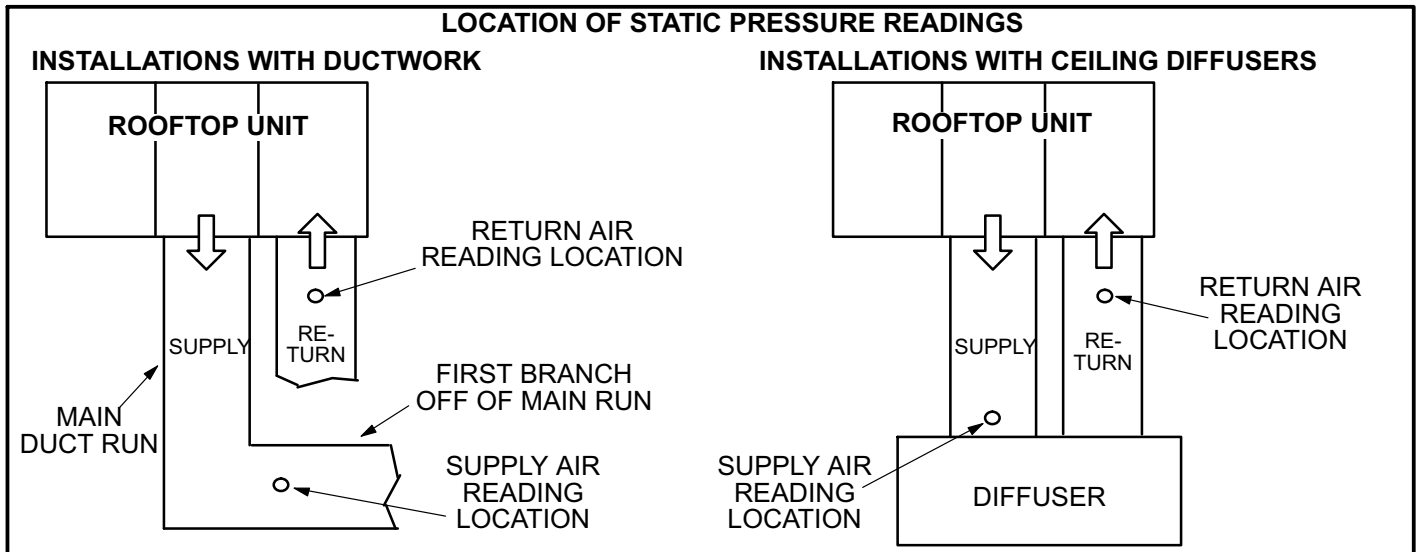

FIGURE 7
- 2- With all access panels in place, measure static pressure external to unit (from supply to return). Add any additional air resistance for options and accessories shown in accessory air resistance tables. Blower performance data is based on static pressure readings taken in locations shown in figure 7.
- 2- With all access panels in place, measure static pressure external to unit (from supply to return). Blower performance data is based on static pressure readings taken in locations shown in figure 7.